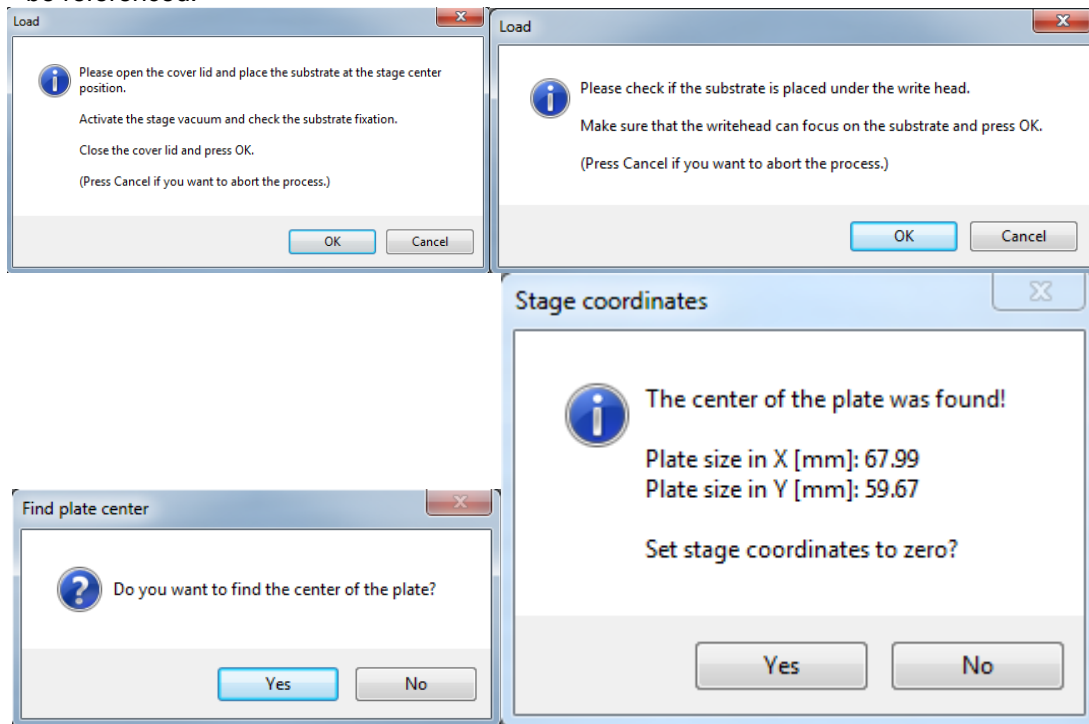

Figure 17: Substrate loading steps.
4. Once confirmed, click the OK button on the computer and watch the camera. The image should change as the mask plate is brought into focus. Once completed, press 'Yes' to centering. This process can take up to 5 minutes as the mask maker moves to the edge of each part of the 5" mask. Finally click OK to set the stage coordinates to zero. Figure 17 can be referenced.